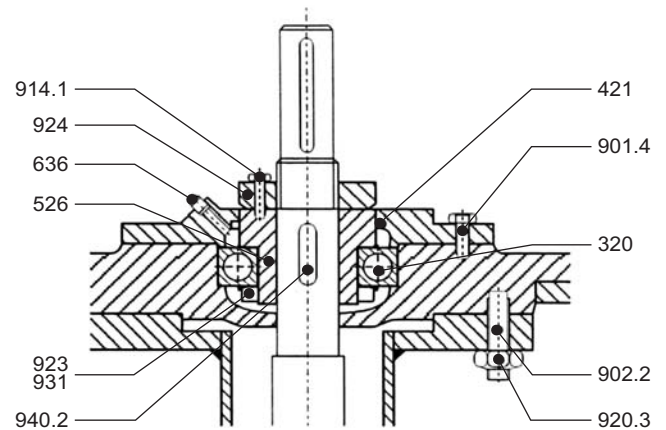

Fig. 15
01. Axial clearance among the impeller (230) and the casing cover (163) should be adjusted using the adjustment nut (924). Tight the nut (924) until the impeller touches the casing cover (see fig. 15).